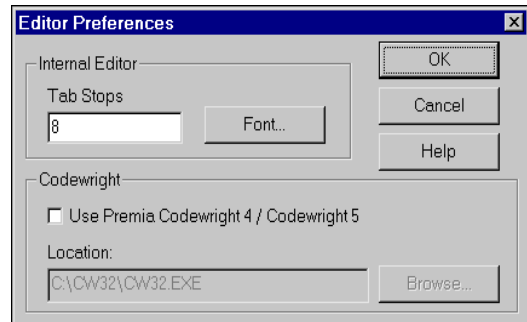

Figure 2-15 Editor Preferences dialog
1. Select **Editor...** from the **Tools** menu to display the Editor Preferences dialog (Figure 2-15).